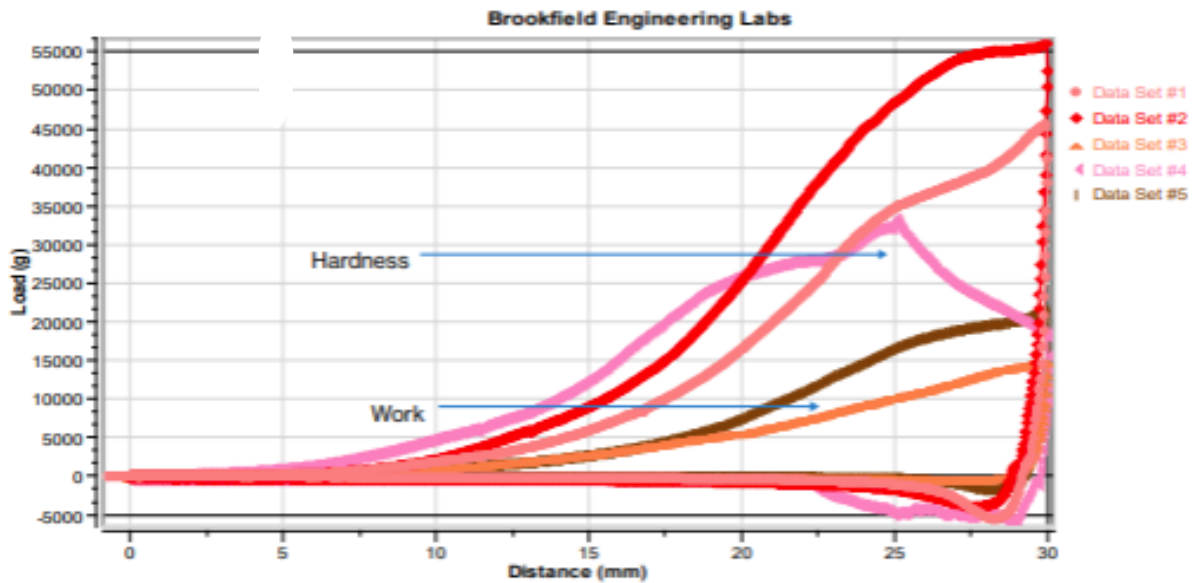

Figure 2: The load/distance graph for the hardness/firmness of 30 g meat
- Load vs. Distance Graph (Fig. 2): Indicates work done; area under graph = energy required to shear sample.
- Work done reflects the energy needed to break internal bonds; higher values = tougher meat (Fig. 2).